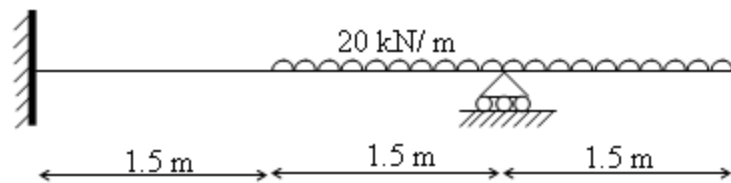

Figure 9:
6. Draw the shear force and bending moment diagrams of the propped cantilever beam loaded as shown in the Figure 9. [15]